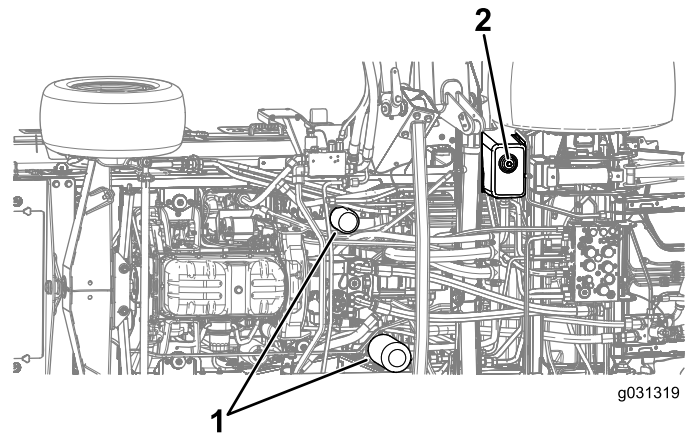

Figure 129
4. Remove the drain plug from the bottom of the tank and let the hydraulic fluid flow into the pan (Figure 129).
7. Place a drain pan under the filter and remove the filter (Figure 129).